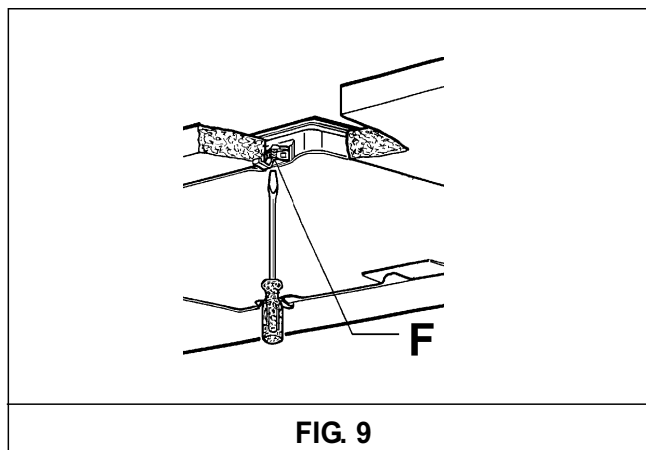

FIG. 9
- Take the protective paper strip of the seal off, place the hotplate in the opening made in the table top, and lock it with the special screws "F" (fig.9).